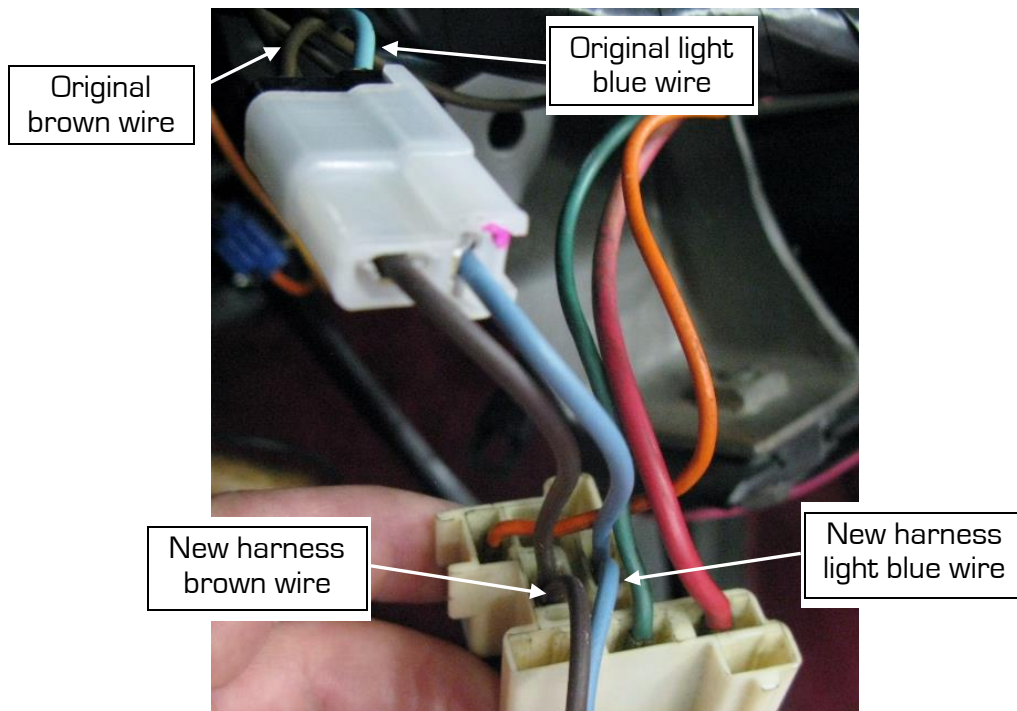

Figure 31 - Plug-In Headlight Connector (Mid C3)
32. Plug the black two-terminal female Packard connector into the clear two-terminal connector on the new harness (Figure 31). Make sure that the wire colors correspond with each other (light blue to light blue or yellow, brown to brown).